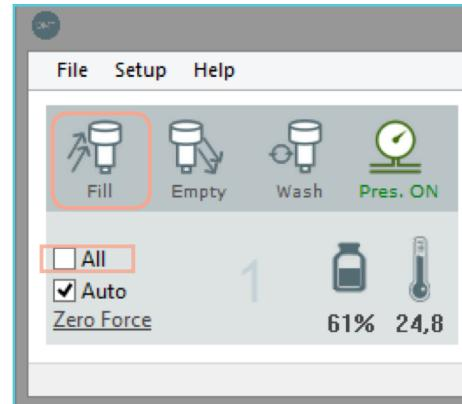

Figure 28.
Step 5: Press the Fill icon on the given chamber (figure 28).